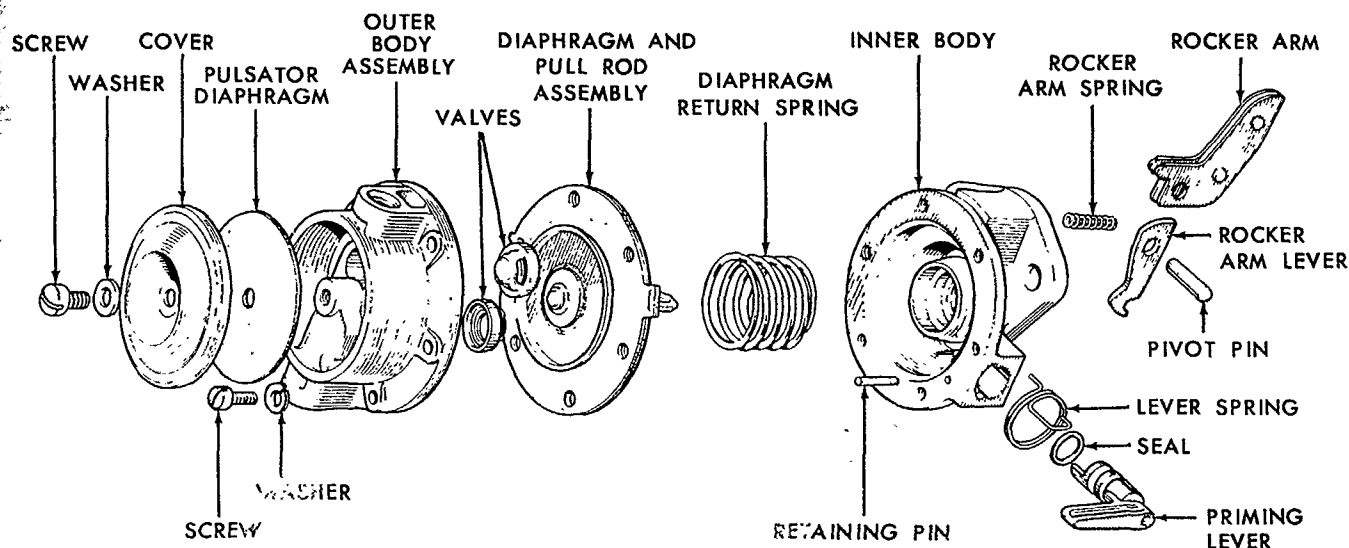

Figure 23
1. Remove the screw and washer which holds the pump cover plate and lift off the cover and rubber pulsator diaphragm. See Figure 23.
1. Insert the rocker arm assembly and small spring, then install the pivot pin and stake it into place. See Figure 23.